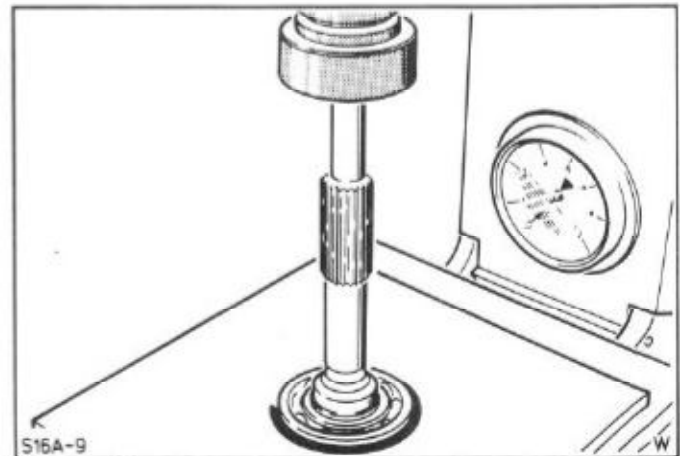

Fig.156. Detach circlip from speedometer drive cable ('B' transmission shown).
3. Detach the circlip from the speedometer drive cable, Fig.156.